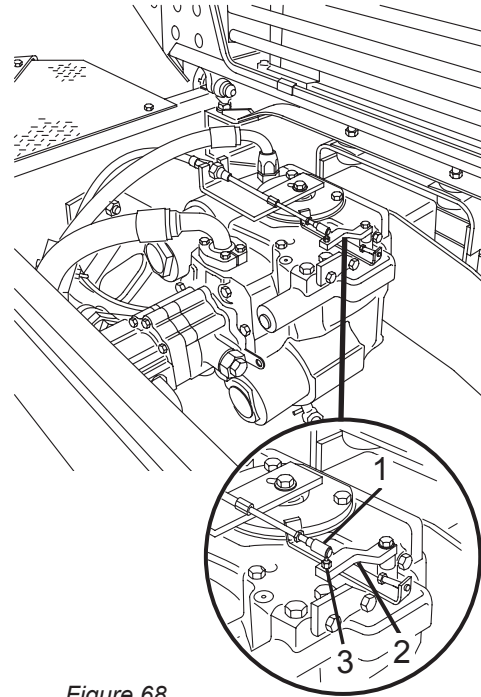

Figure 68
1. Pull back and hold the head (Figure 68, Item 1) of the control cable. Lift the end of the cable off the pivot (Figure 68, Item 3) to disconnect the control cable from the pump control lever (Figure 68, Item 2).
2. Move the pump control lever (Figure 68, Item 2) as required to start the drum rotation in the charge or discharge direction.